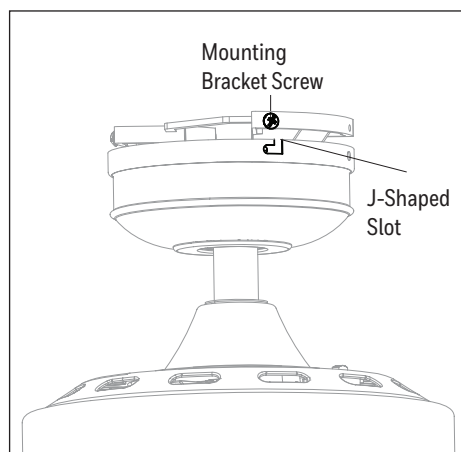

Figure 5.2
- Raise the canopy, ensure the two mounting bracket screws are aligned with the J-shaped slots in the canopy. Then turn the canopy in a clockwise direction until the mounting bracket screws are completely engaged in the J-shaped slots (Figure 5.2).